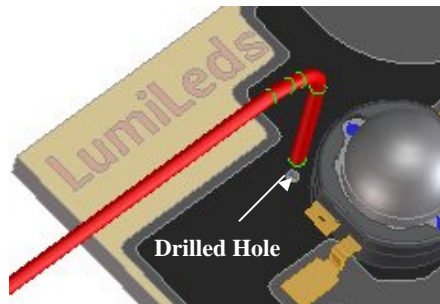

Figure 11. Thermocouple tip inserted in board.
4. If using a larger T or K-type TC, it may not be possible to tape the TC tip flat on the board, which would lead to inaccuracies. In this case, drill a hole, just larger than the TC dia. in the top of the board, 0.03" deep. (Figure 11) Bend the TC tip at right angle. For better contact, dip the TC tip in a conductive paste (e.g. Wakefield Eng, Thermal Compound). Insert the TC tip and secure the TC wire with tape or glue to keep the TC tip fully inserted.